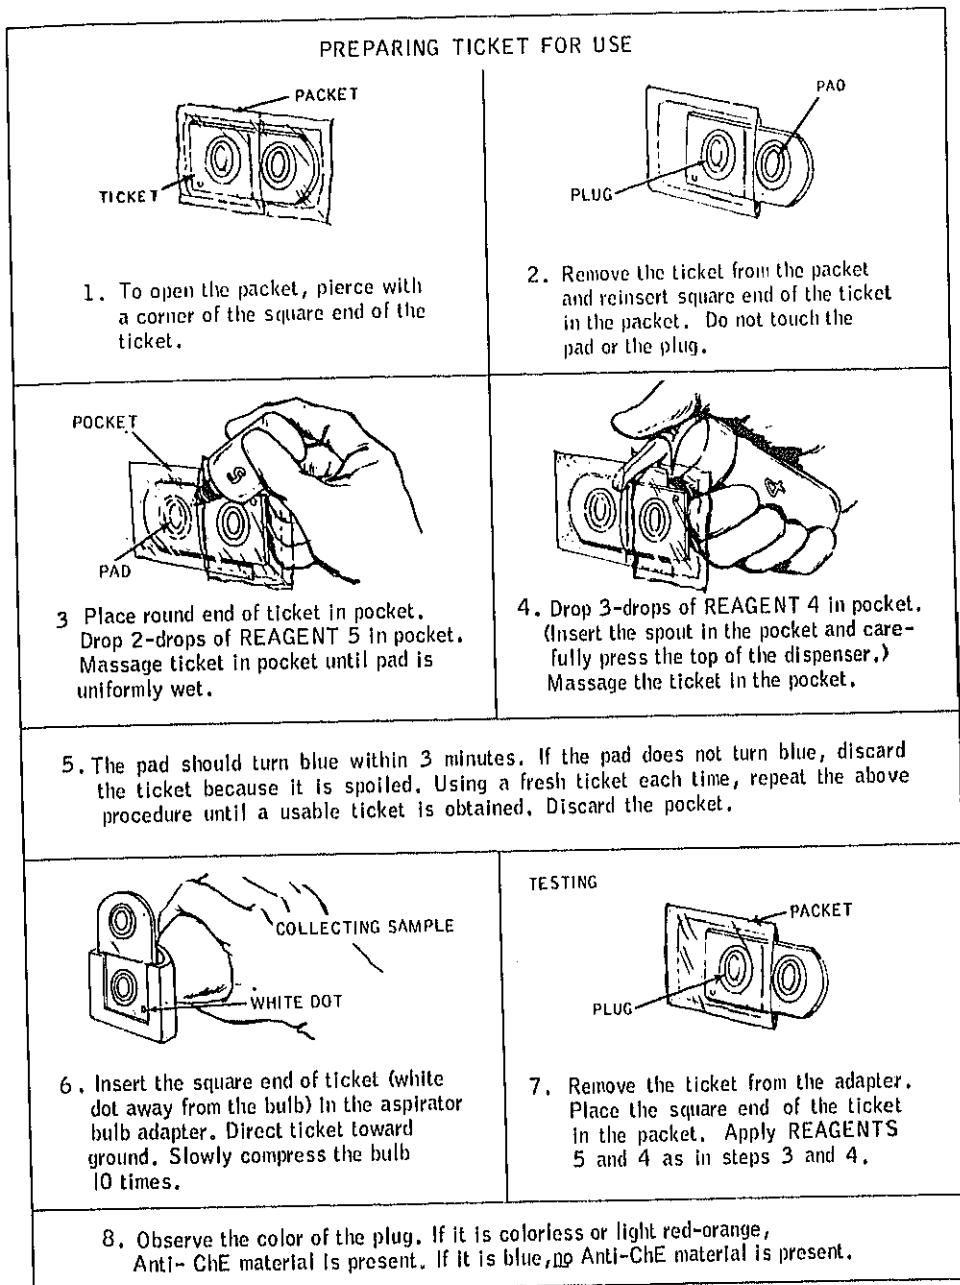

Figure 2-2 (U). Procedure for Anti-ChE test (TEST 1) (U).
- (1) Tear out a sheet of M8 detector paper from the book.
- (2) Hold it in contact with suspected source for approximately 10 seconds. (For suspected water, put a drop of the water on the paper.)
- (3) Note any color change and compare with colors printed on the inside cover of the book.
- (b) A red color indicates Mustard (H).
b. Anticholinesterase Detector Ticket. Use an anticholinesterase detector ticket (packet with a Green E) to detect anti-ChE material on surfaces in water and in the atmosphere. The procedure given in figure 2-2 is used to detect Anti-ChE material in the atmosphere.